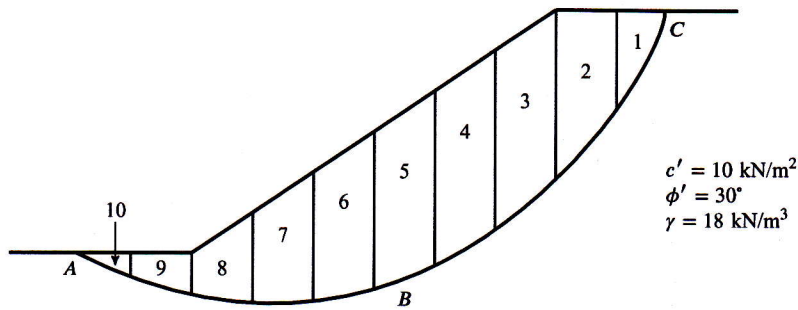

Figure 6
- (b) For the slope shown in Fig. 6, find the factor of safety (F_s) against sliding for the trial slip surface ABC using the Ordinary method of slices. [14]